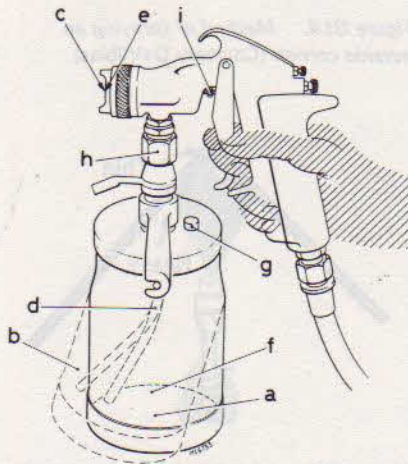

Figure GL6. Spray gun components.
1. Sometimes the gun will give a fluttering or jerky spray, and this is caused by: (see Figure GL6).